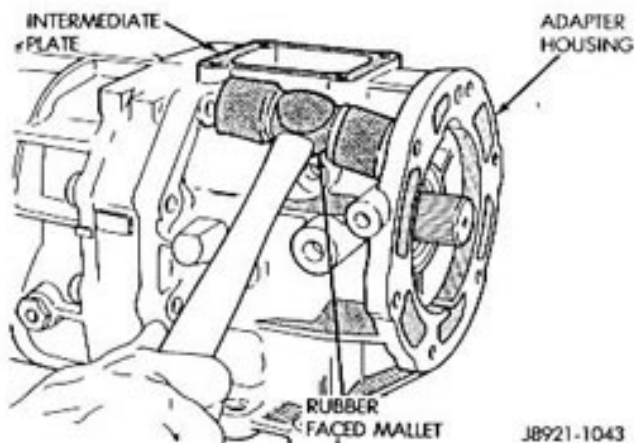

Fig. 13 Loosening Adapter Housing
(16) Loosen the adapter/extension housing by tapping the housing with a rubber face mallet (Fig. 13).